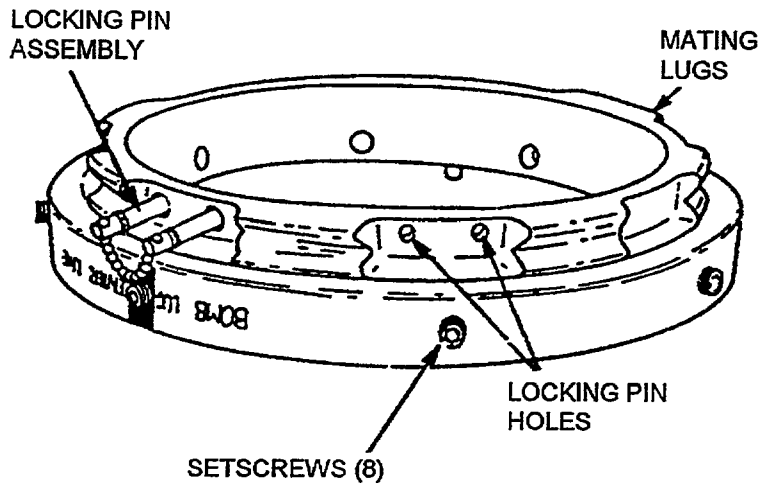

Figure 4-11B. Bomb Fin Adapter ADU-320A/B
- a. Uncrate bomb fin adapters, remove polyethylene bag and remove locking pin assembly from bomb fin adapter (Figure 4-11B).